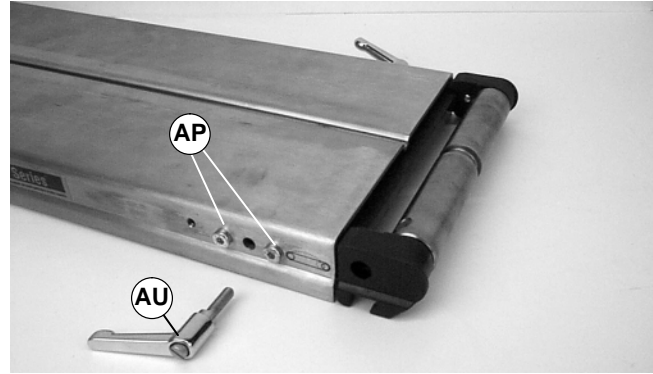

Figure 36
2. Remove two (2) screws (AP of Figure 36).
1. Remove handle (AU of Figure 36).